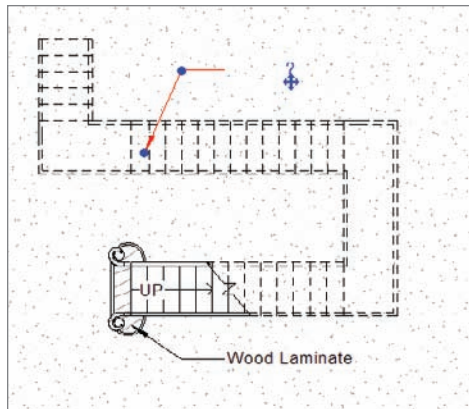

FIGURE 11.100 Picking the stairs to place the keynote
10. Pick the stairs, as shown in Figure 11.100.